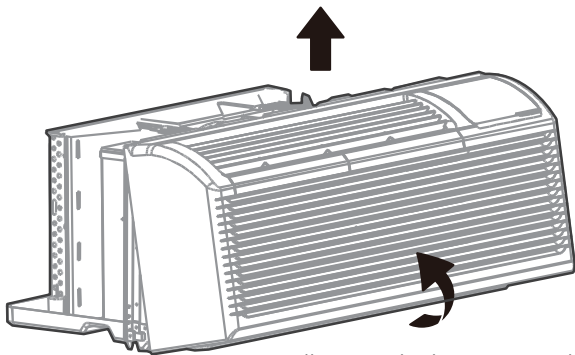

Fig.2
- Dip switches controls are located behind front panel, through an opening below the control panel. To access, remove front panel. See Fig.2.